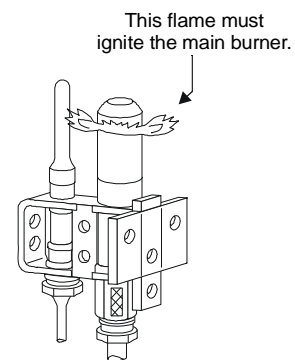

Figure 3: Turn Down Test without Instruments
1. Reduce the pilot flame by turning the manual B valve to a point where the pilot flame does not impinge on the thermocouple (see Figure 3).